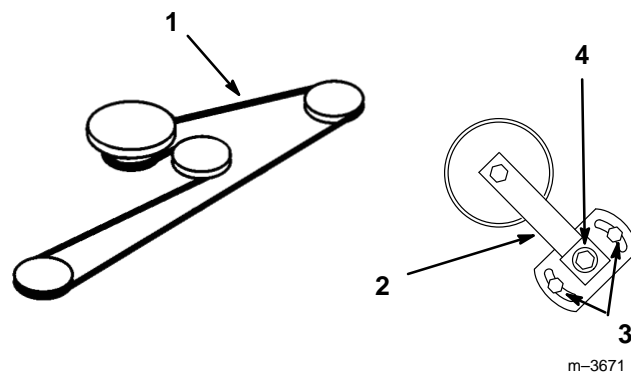

Figure 48
3. Loosen two nuts securing idler plate and move the idler arm to relieve belt tension on the idler pulley, then remove the worn deck belt (Fig. 48).
4. Install the new deck belt around the spindle pulleys, belt guide, the idler pulley, and in the lower groove of the center spindle pulley (Fig. 48).